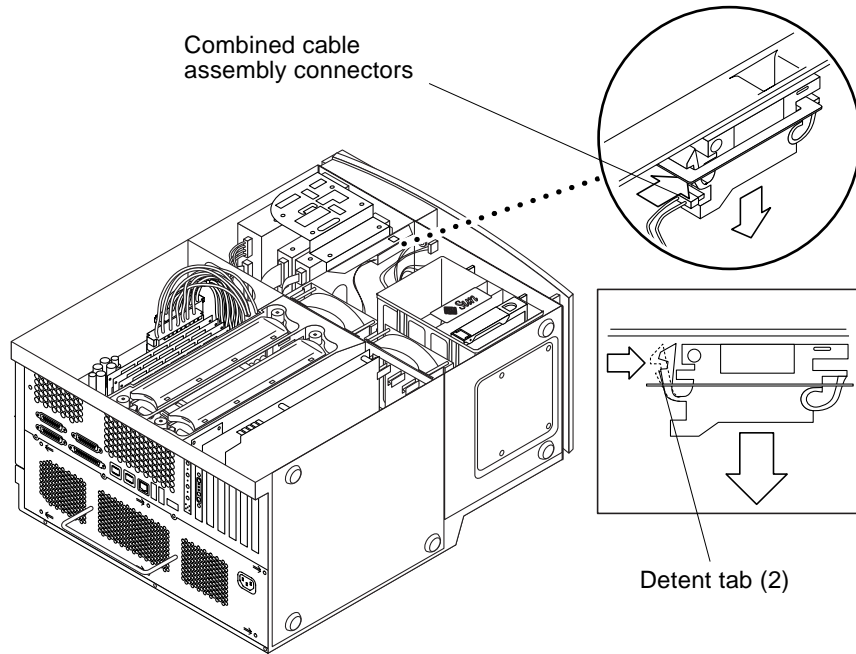

FIGURE 6-12 Removing and Replacing the Interlock Switch Assembly
2. **Press the detent tabs at either side of the interlock switch assembly while pulling the switch from the chassis switch housing (FIGURE 6-12).**
1. **Connect the combined cable assembly connectors to the interlock switch terminators (FIGURE 6-12).**